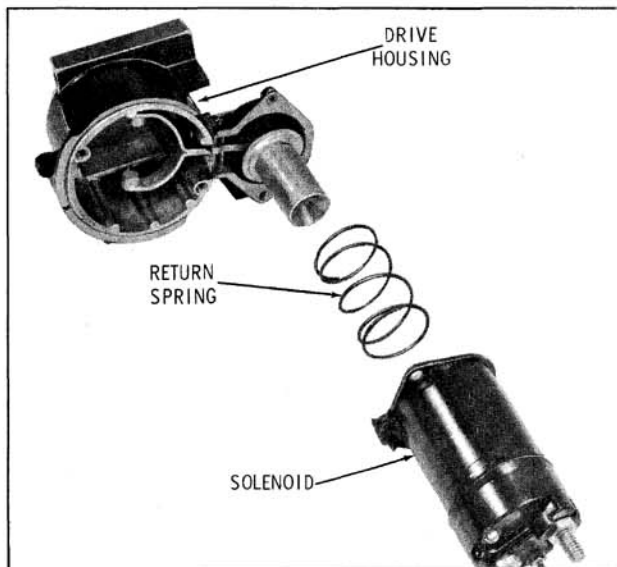

Fig. 13-50 Solenoid Installation
- a. Remove solenoid to drive gear housing attaching screws, then remove solenoid assembly. (Fig. 13-50)
- c. Install solenoid assembly to drive gear housing. (Fig. 13-50)